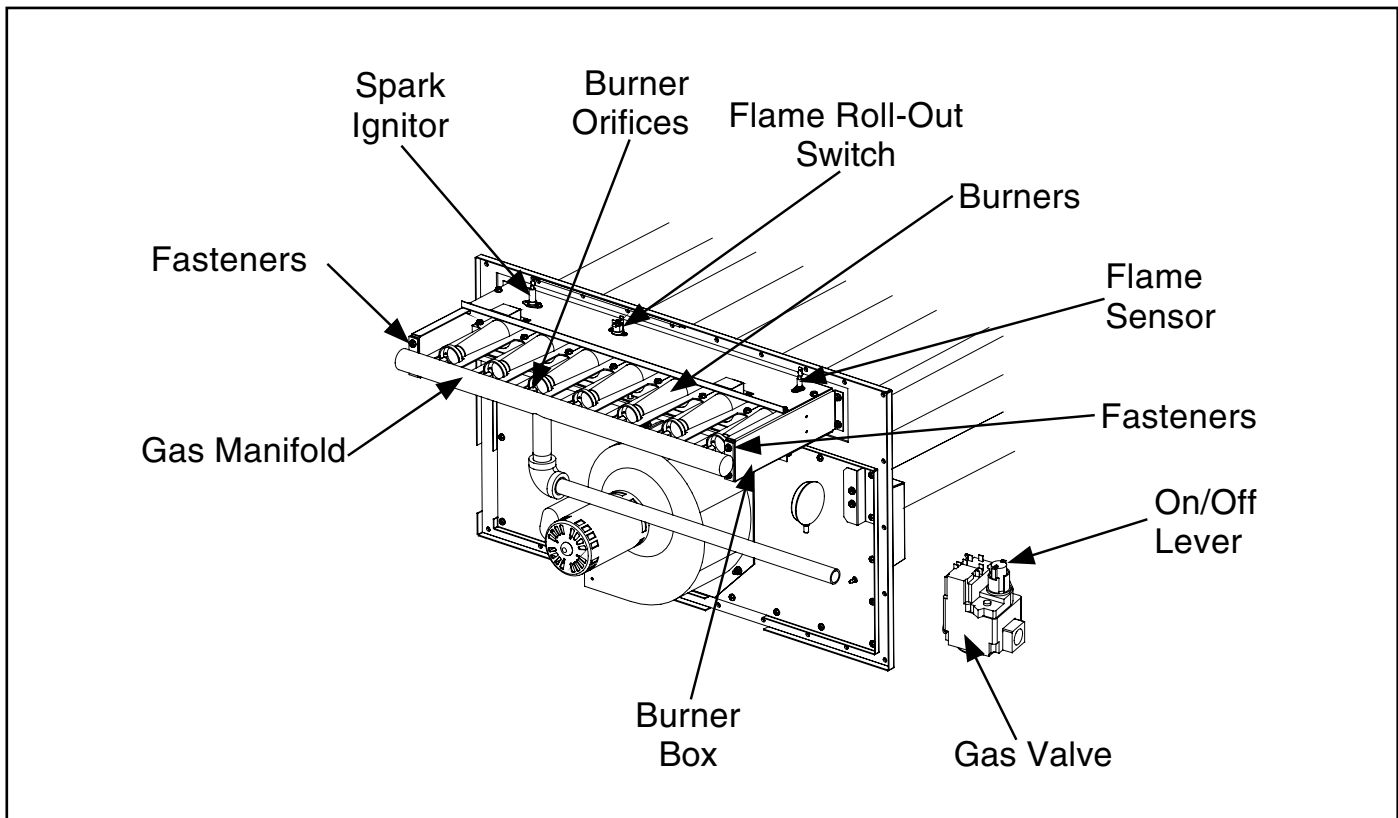

Figure 1. Typical Installation For R4GM-150/180 Burner Box
5. Move the appliance gas valve lever/knob to the “OFF” position. See Figures 1 and 3.
5. Remove the four (4) fasteners that secure the gas manifold to the burner box, as shown in Figure 1. Carefully remove the gas manifold assembly from the burner box. Note that the gas manifold consists of the gas manifold and the orifices.
6. Carefully remove the burner orifices from the gas manifold, as shown in Figure 1.